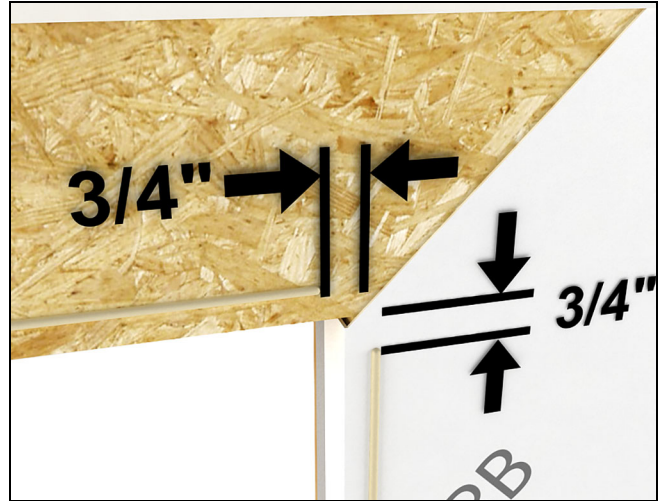

Figure 6
2. Starting in 3/4" from the side, apply 1/4" to 3/8" bead of sealant 1/2"- 3/4" across the top of the RO stopping 3/4" in from the end. Apply sealant down both sides of the window opening in the same manner. Do not apply sealant across the RO bottom. See Figure 6.